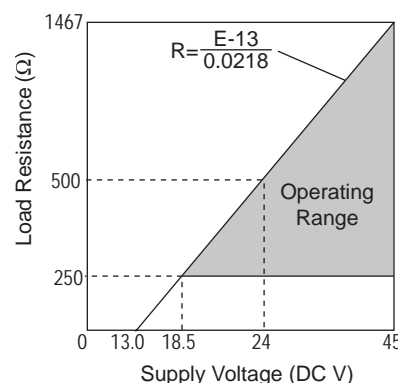

Figure 3 Power supply voltage / load resistance
18.5 to 45V DC. A load resistance of 250 Ω or more is necessary in a loop. See Figure 3.